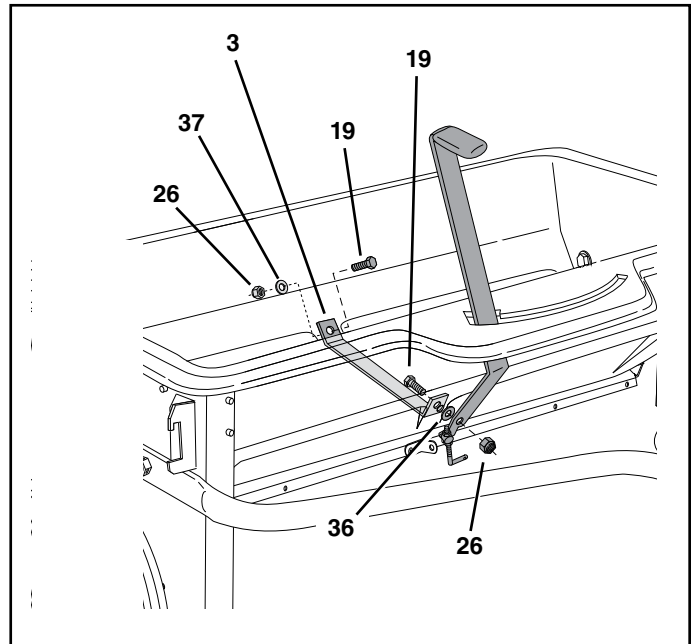

FIGURE 9
- Place the flow control lever into the slot in the hopper. See figure 9.
- Place the center brace (3) into the hopper. Insert a 1/4" x 1" hex bolt (19) through the center brace and the front of the hopper. Assemble a nylon washer (36), the flow control lever and a 1/4" nylock hex nut (26) onto the bolt. **Do not tighten yet.** See figure 9.
- Insert the other 1/4" x 1" hex bolt (19) through the center brace and the rear of the hopper. Assemble a 1/4" flat washer (37) and 1/4" nylock hex nut (26) onto the bolt. **Tighten** both the front and rear bolts. See figure 9.